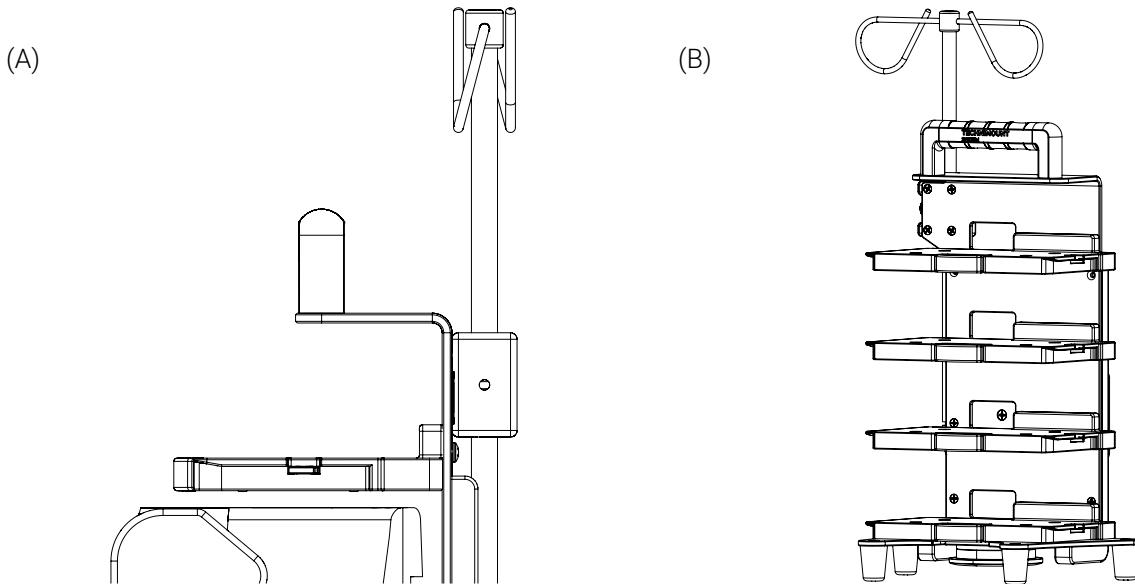

Figure 9: Pump(s) removed from the support bracket
- Repeat steps 1 to 2 for the remaining pumps if needed (Figure 9).